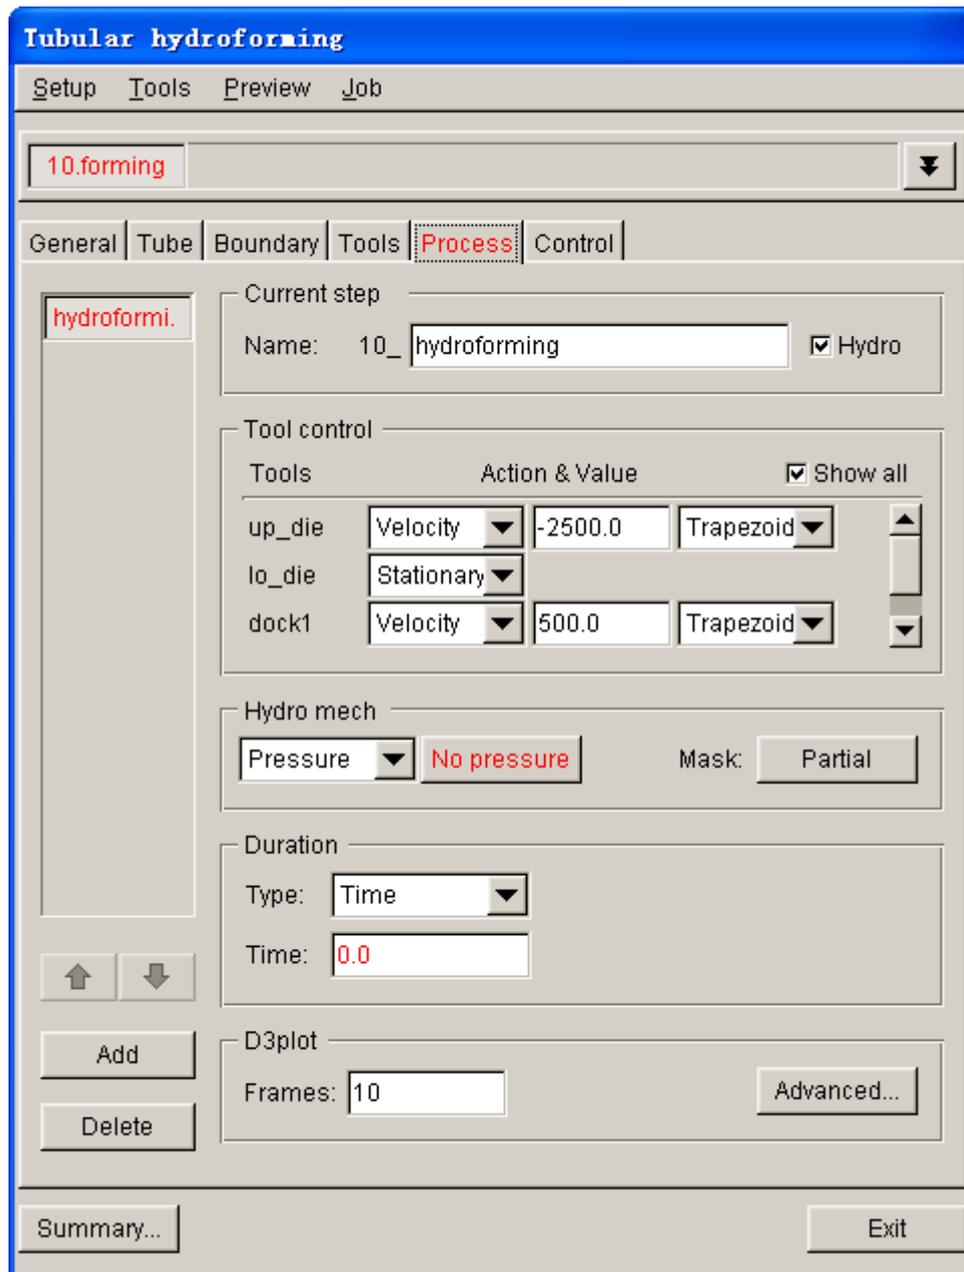

Figure 3.32 Hydroforming process interface
2. Now, only the hydroforming process is available in the process definition interface. Toggle on the **Show all** option illustrated in Figure 3.32 to display all the tools.
3. In hydroforming process, the **lo_die** remains stationary through out the forming process. Set the velocity of **up_die** to **-2500** (mm/s) so the tool is moving downward along the working direction. Both **dock1** and **dock2** are moving with the velocity of **500** (mm/s) along their corresponding working direction. See Figure 3.32.
4. Click on the **No Pressure** button illustrated in Figure 3.32 to display the HYDRO MECH dialog box illustrated in Figure 3.33. In pressure control field, select **Constant** option. Then, type in constant pressure of 10 (N/mm²).